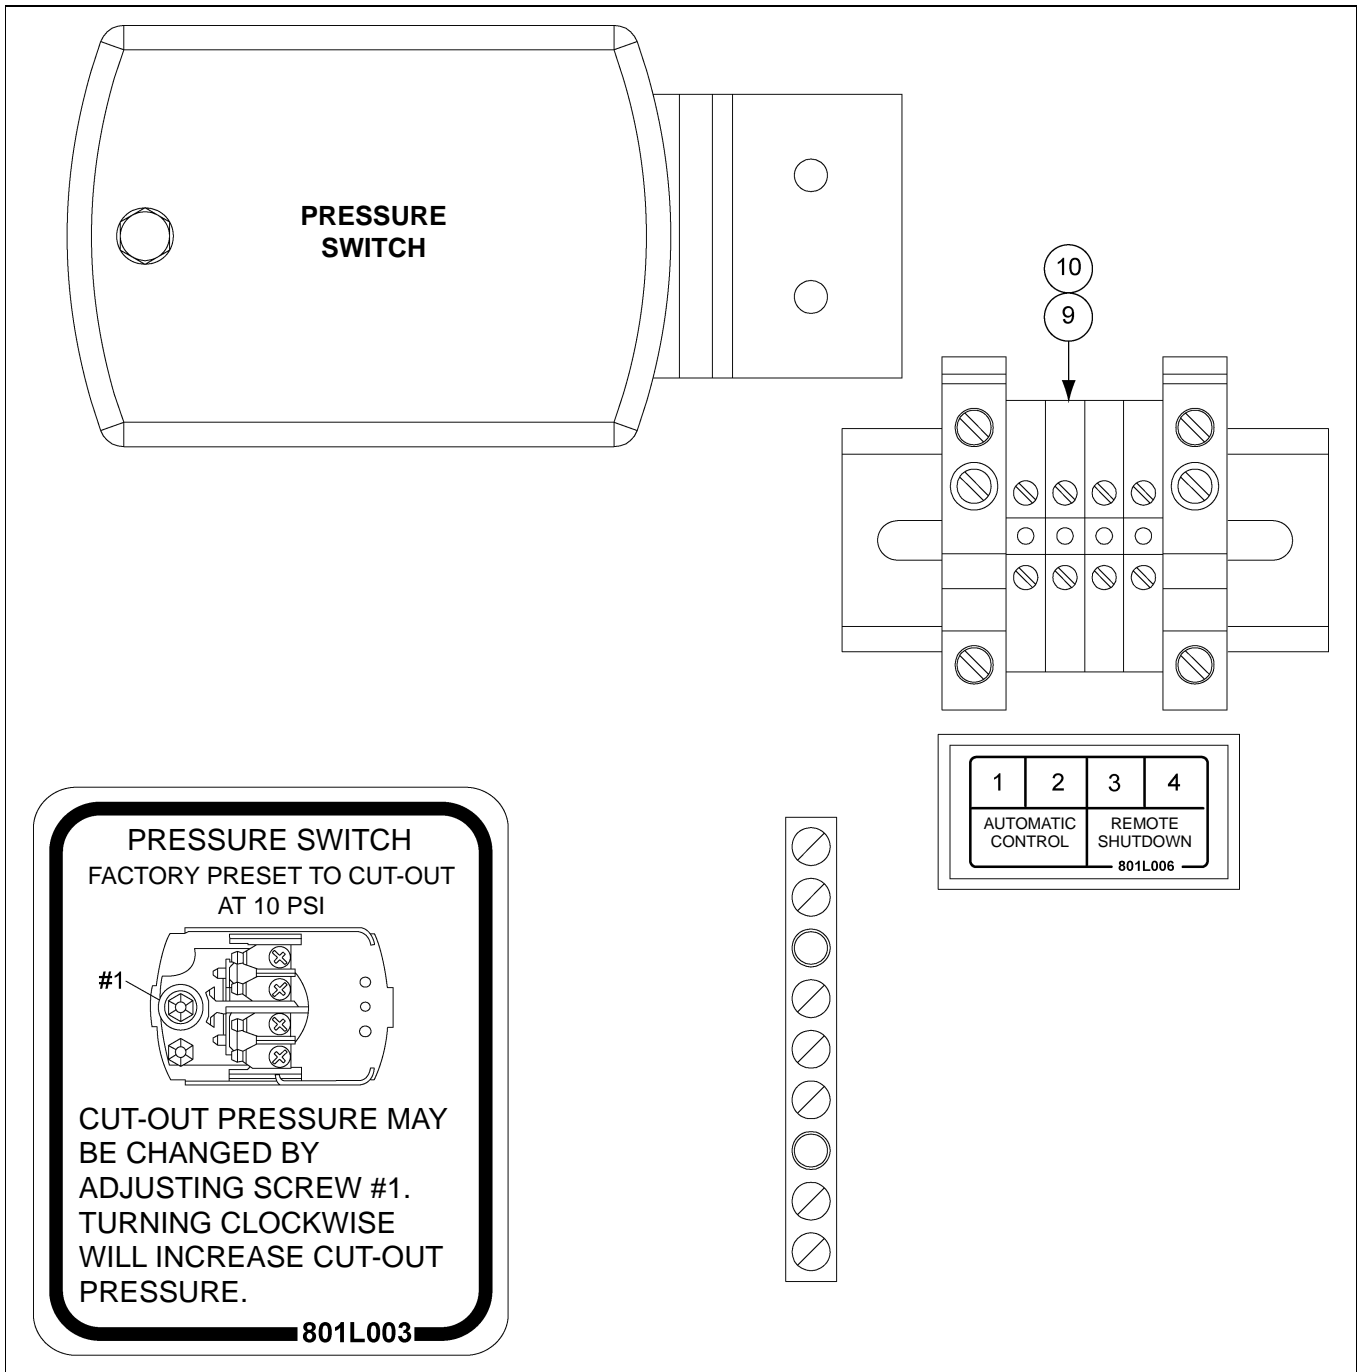

Figure 7N Auto Remote
7. **Tripped Overload Indicator Light:** This lamp will illuminate when any of the motor thermal overloads in the control box has tripped. The overloads for all three (3) circuits (aux, airlock and blower) must have thermal overloads installed to operate the system. See thermal unit chart on Page 27.
9. **Automatic Control Terminals:** When the air system is ready to run (i.e., the control ready light is ON), the system can then be started and run by completing the circuit between terminals 1 and 2. The blower, airlock or auxiliary equipment will not run in the automatic mode unless terminals 1 and 2 are connected. For example, a closing set of contacts in a dryer control box would complete the circuit between terminals 1 and 2 and automatically start the air system. (See Figure 7N on Page 26.)